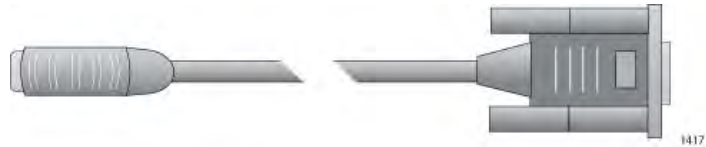

Figure 82. Serial Management Cable with RJ-45 and DB-9 Connectors
- ❑ If your device has a DB-9 female connector, you will need a serial management cable with a DB-9 male connector that connects to your computer and a nine-pin male RJ-45 connector that connects to the Console port on the switch. An example is illustrated in Figure 82. The wiring requirements of the cable are provided in “Console Management Cable with DB-9 Female and RJ-45 Connectors” on page 222.